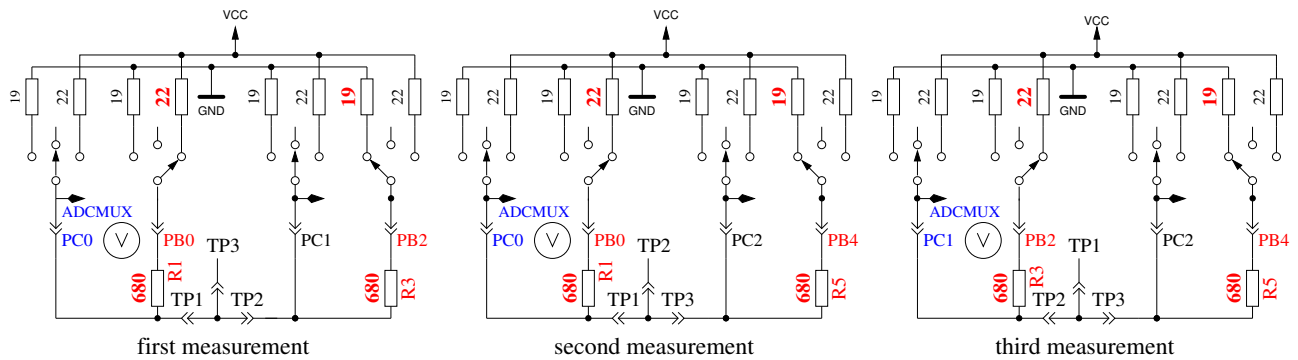

Figure 5.61. Comparison of 680Ω resistors
2. **Comparing of the 680Ω resistors.** In row 1 the cryptic text "+RL- 12 13 23" is shown. Meaning of this is as follows: The RL is the short form of Resistor Low meaning the 680Ω resistors. The 12 stand for: resistor at pin 1 is connected to VCC (+) and resistor at pin 2 is connected to GND (-). The result of this measurement is displayed in row 2 at the first place as difference to the theoretical value. In row 1 follows now a "13" which means, that the first connection of measurement 1 is still connected with 680Ω to VCC but that the resistor of pin 3 is connected to GND. The result is displayed in the middle place of row 2 as difference to the theoretical value. The last measurement of this test "23." means that now the resistor at pin 2 is connected to VCC (+) and the resistor of pin 3 is connected to GND. The result of measurement is displayed at the last place of LCR row 2 as difference to the theoretical value. Please remember, that the resolution of the ADC is about 4.88mV! The measurement situation is also shown in figure 5.61. The theoretical value with respect to the internal resistance of the pins should be: